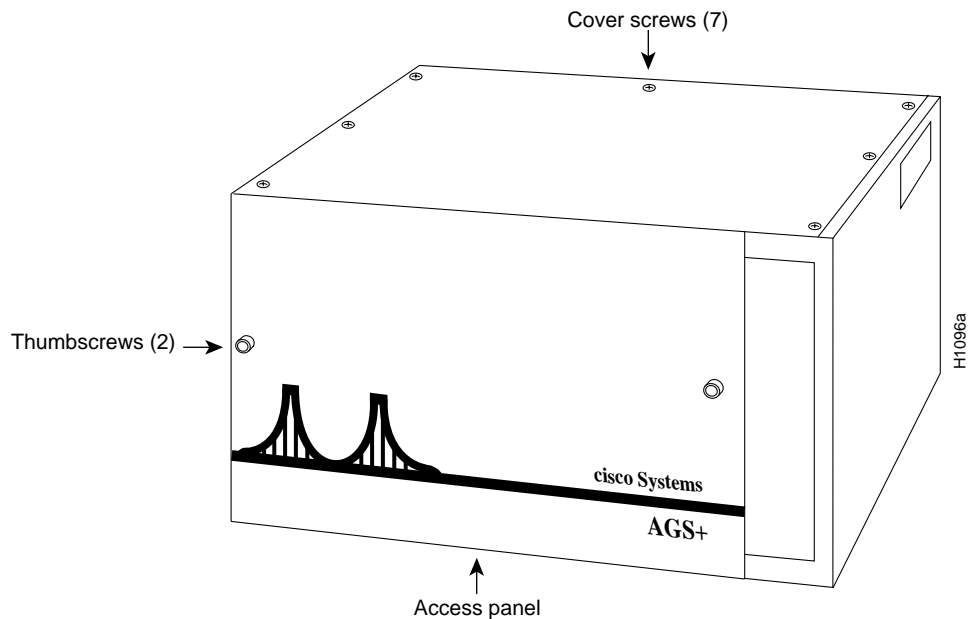

Figure 2 Chassis Front and Top Panels
**Step 2** To access cards in the card cage, loosen the two thumbscrews and remove the front panel from the chassis. (See Figure 2.)